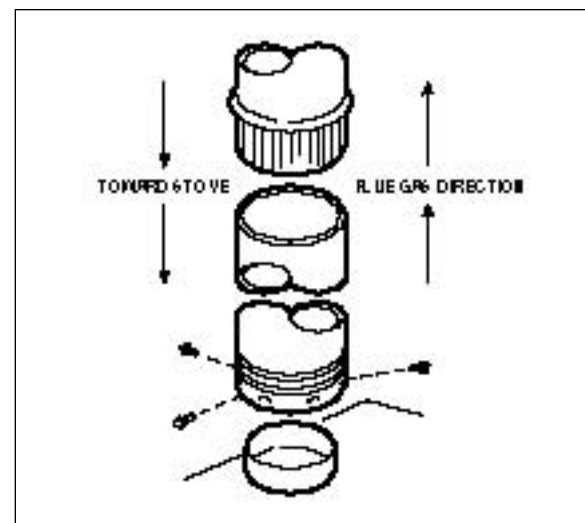

Figure 7
- A. Single wall connector or stovepipe. This must be at least 24 gauge mild steel or 26 gauge blue steel. The sections must be attached to the stove and to each other with the crimped (male) end pointing toward the stove. See Figure 7. All joints, including the connection at the stove collar, should be secured with three sheet metal screws. Make sure to follow the minimum clearances in Table 1, page 5.